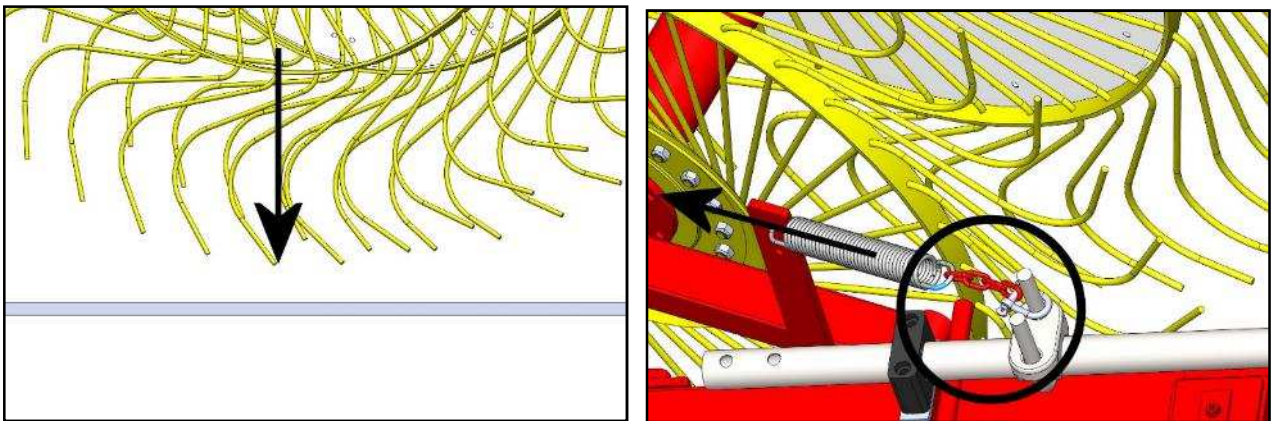

Figure 33
- If it is too high, lift the pair to be adjusted by hand with the help of a colleague standing in front of the front star wheel, and move the upper hook of the lightening spring into the immediately lower link of the chain in order to lower the star wheel unit (*see Figure 33*); repeat the operation until the required setting is achieved (the rear star wheel must be at least 3 mm / 0.12 inches above the ground).